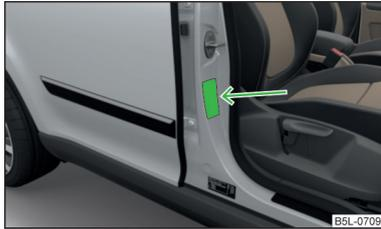

Fig. 16
- On the B-column on the front passenger side » Fig. 16. The sticker is visible upon opening the front passenger door.